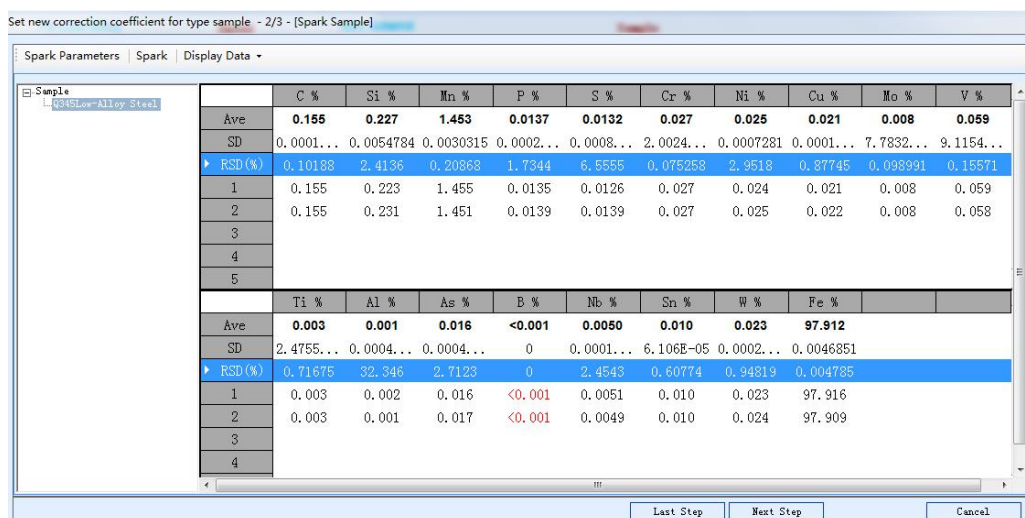

Figure 4-34 Sparking the sample
Step 7 Spark the corresponding control samples twice to ensure that the RSD of the main elements is less than 3. Click “Next Step”, as shown in Figure 4-34: